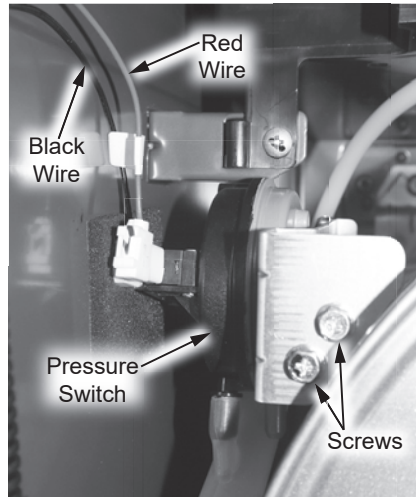

Figure 70 - Pressure switch location
4 Locate the pressure switch on upper left side of the water heater. See Figure 70.
5 Disconnect the black wire harness from the common (C) connector and the red wire harness from the normally closed (NC) connector. See Figure 70.
6 Remove and keep the two screws securing the pressure switch to the water heater. See Figure 70.
- 14 Reconnect the black wire harness to the common (C) connector. Reconnect red wire harness to the normally closed (NC) connector. See Figure 70.